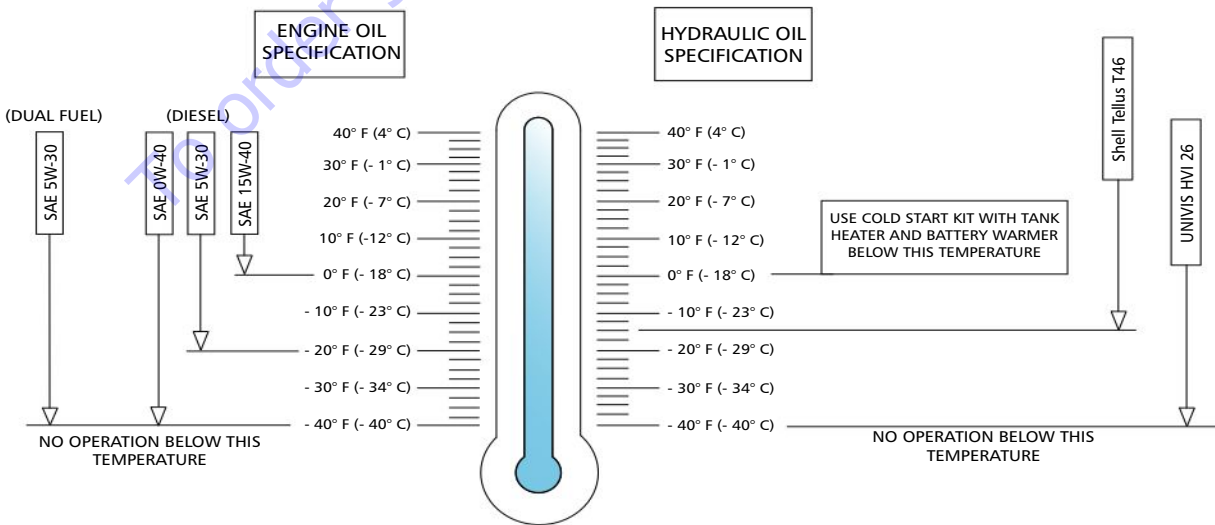

Figure 07 Cold weather operation chart
- Use the correct hydraulic and engine oils (refer to Figure 07).
2. Find the **heater plug** ❶ in the engine compartment.
Refer to the cold weather operation chart (Figure 07) to help when you operate the MEWP in cold weather conditions.